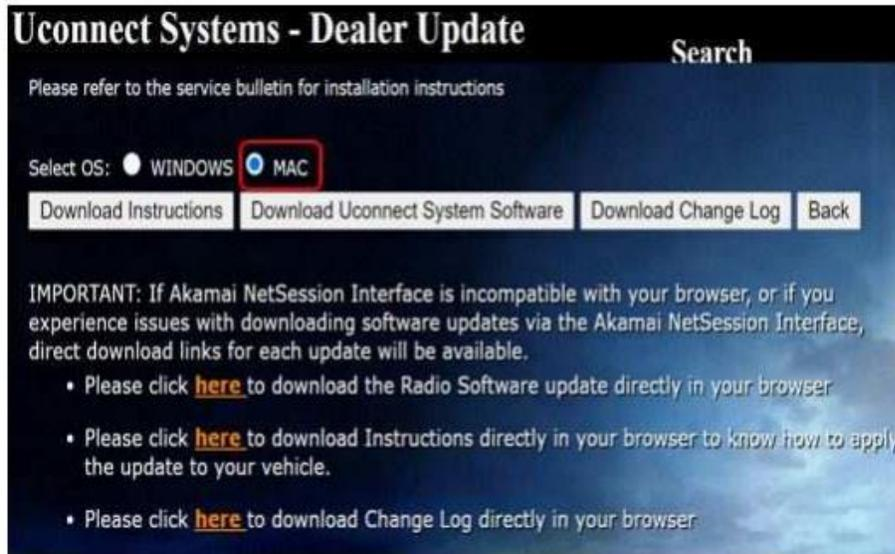

Figure 3 – MAC Download Steps
6. Download the software update file to your local PC’s desktop. Make sure to select the “MAC” radial button for all downloads (Figure 3).